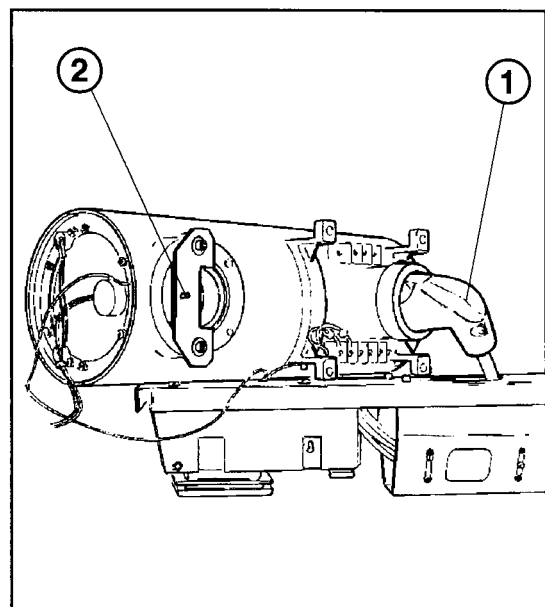

Fig. 2
- Lift up the X-ray tube assembly and disconnect the high-voltage cable (1/Fig. 2).
- Mount the new X-ray tube assembly, paying attention to the guide pin (2/Fig. 2).